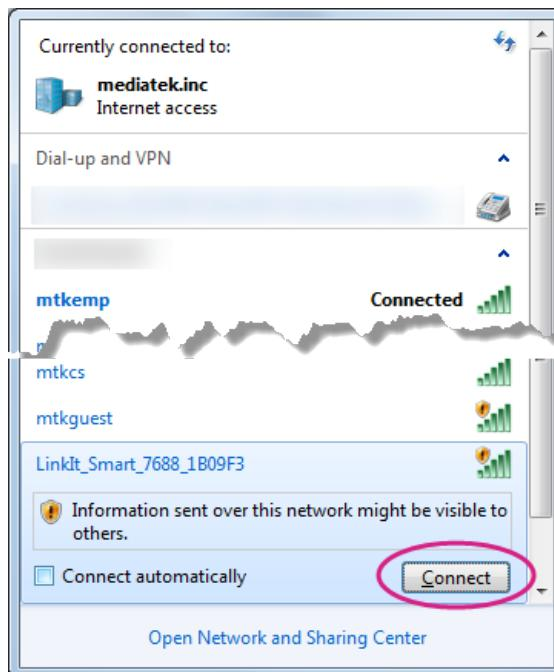

Figure 16 Connecting to LinkIt Smart 7688 AP
- 2) Open the Wi-Fi connection utility on your computer and connect to the access point named `LinkIt_Smart_7688_1B09F3` (`1B09F3` is the MAC address and yours could be different), as shown in Figure 16.